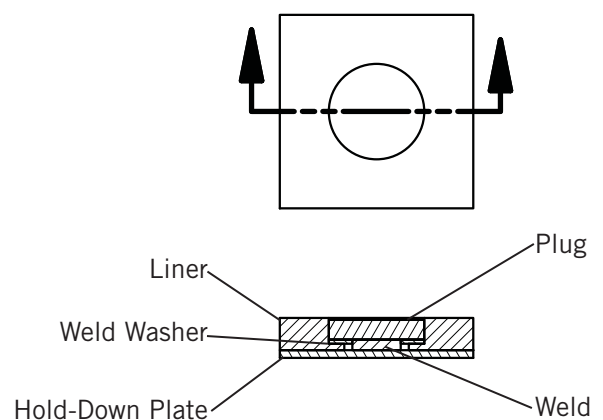

Figure 25
- 4) See **Figure 25**. Trace the rear hold down plate (1) onto the liner. Drill (14) 1" diameter holes equally spaced through liner.
- 5) Use the counterbore tool and bore each hole to the same depth as the thickness of the liner plug (3).
- 7) Set the steel weld washer (2) into the hold and weld to the steel plate.
- 8) Insert the liner plug (3) into the holes. Flush them with the liner.